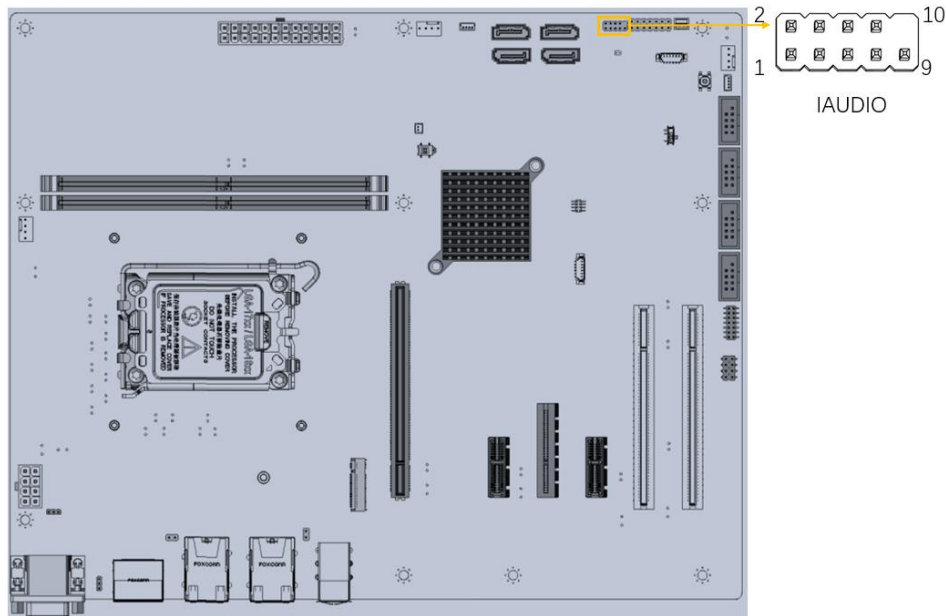

Figure 3-6: Audio Connector For IEI AC-KIT-888S Kit Location
The AT/ATX power mode selection is made through the AT/ATX power mode switch which is shown in Figure3-6.
- CN Location:** See Figure 3-6